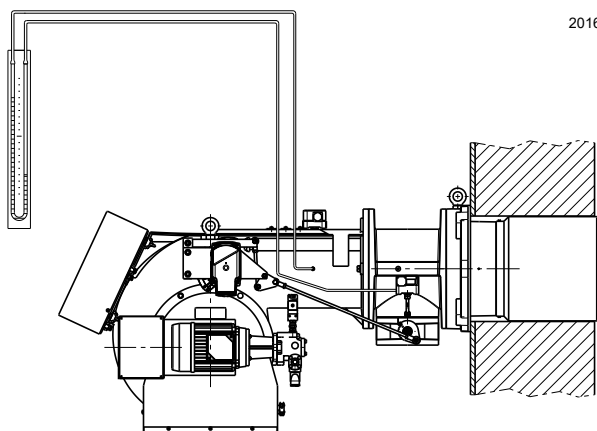

Fig. 30
- Fit a U-type pressure gauge or a differential pressure gauge (Fig. 30), with socket (+) on the gas pressure of the pipe coupling and (-) in the combustion chamber.
The arrival of gas to the sleeve is indicated by the U-type pressure gauge (Fig. 30).